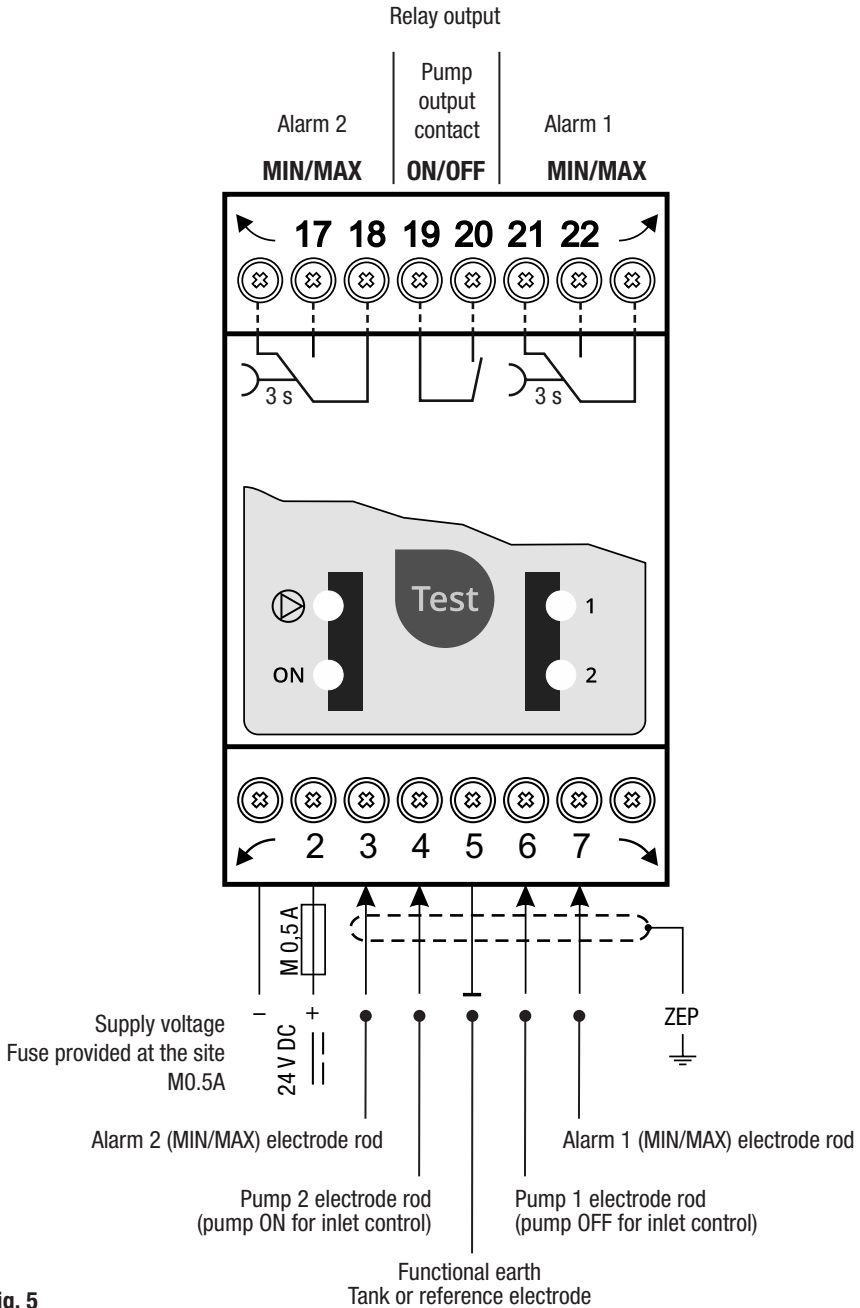

Fig. 5
- Connect the level switch and all associated components as shown in the wiring diagram in **Fig. 5** of this Manual.
- Connect the outputs as shown in the wiring diagrams in Fig. 5.